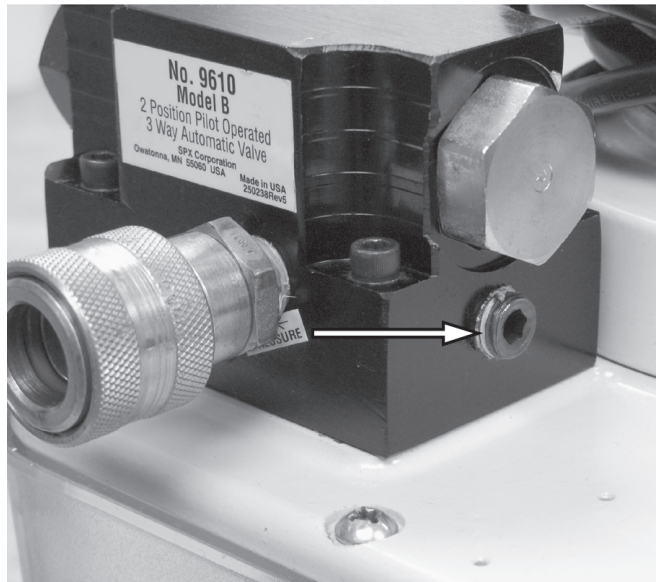

Figure 4. Gauge Port
1. See Figure 4. Remove the pipe plug from the gauge port located on the side of the hydraulic valve.